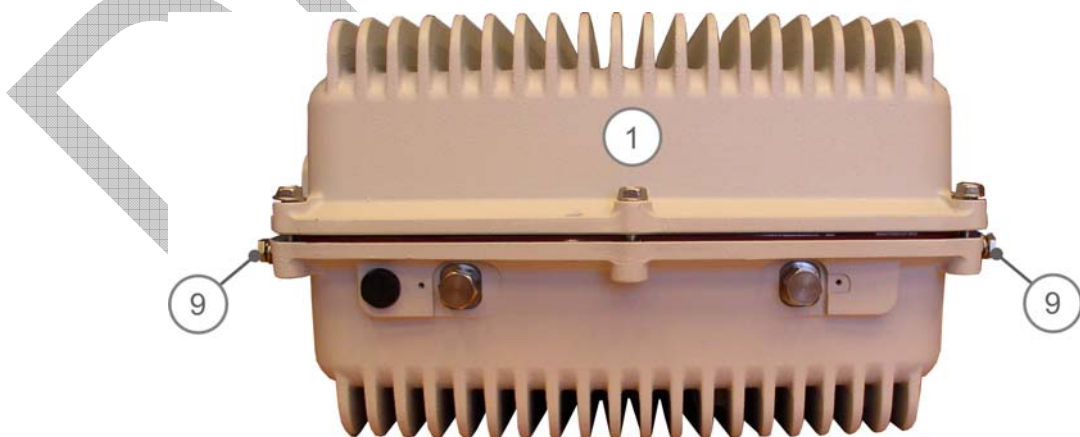
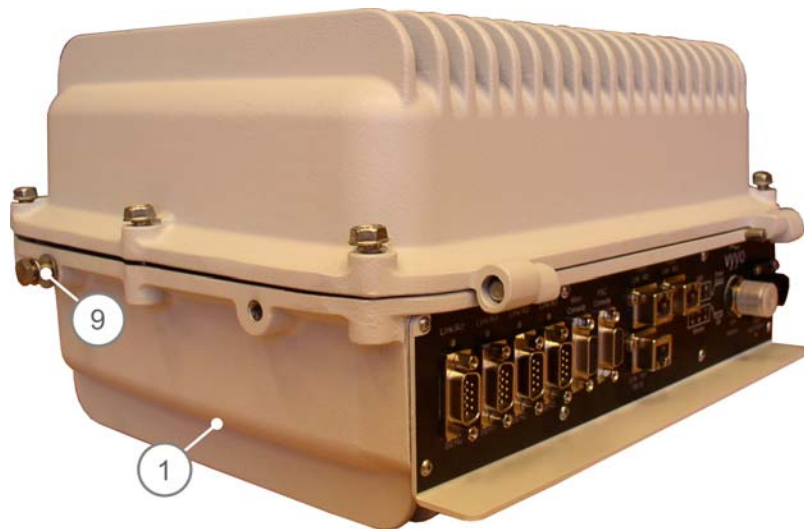

Figure 10: Wall Mounting – Screwing Two ¼" Screws (WiFi Antennas Side View)
Figure 11: Wall Mounting – Screwing Two 1/4” Screws (Interface Panel Side View)
5. Screw two assembled ¼" screws (9) into the V390i, one on either side, close to the WiFi Antennas side (see Figure 10 and Figure 11). Do not tighten the screws.